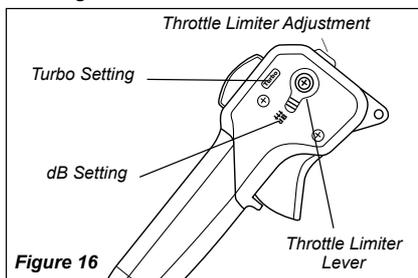

Figure 16
For reduced noise setting, move the throttle limiter located on the right side of the throttle control to the dB setting. See Figure 16.
2. Move the throttle limiter lever to the "dB" setting. See Figure 16.